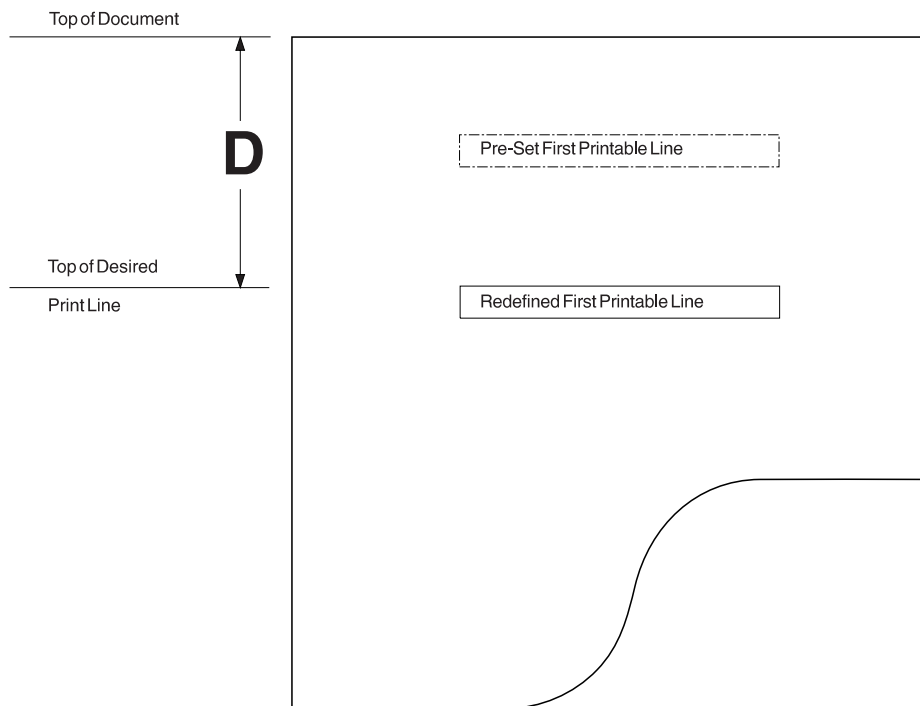

Figure 199. Calculating Distance from Top of Document to Top of Print Line on a Model 3 or 4 Printer (Bottom Insert)
1. Measure the distance D as shown in Figure 199 from the top of the document to the top of the appropriate print line.